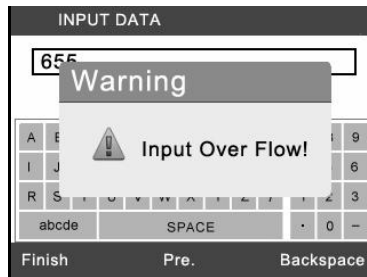

Figure 6.15
- ❏ **NOTE:** The data you input must be in the reasonable range, which is defined by the preset values in VIN. If you enter a data out of range, the tool will display a warning message. (Figure 6.15)